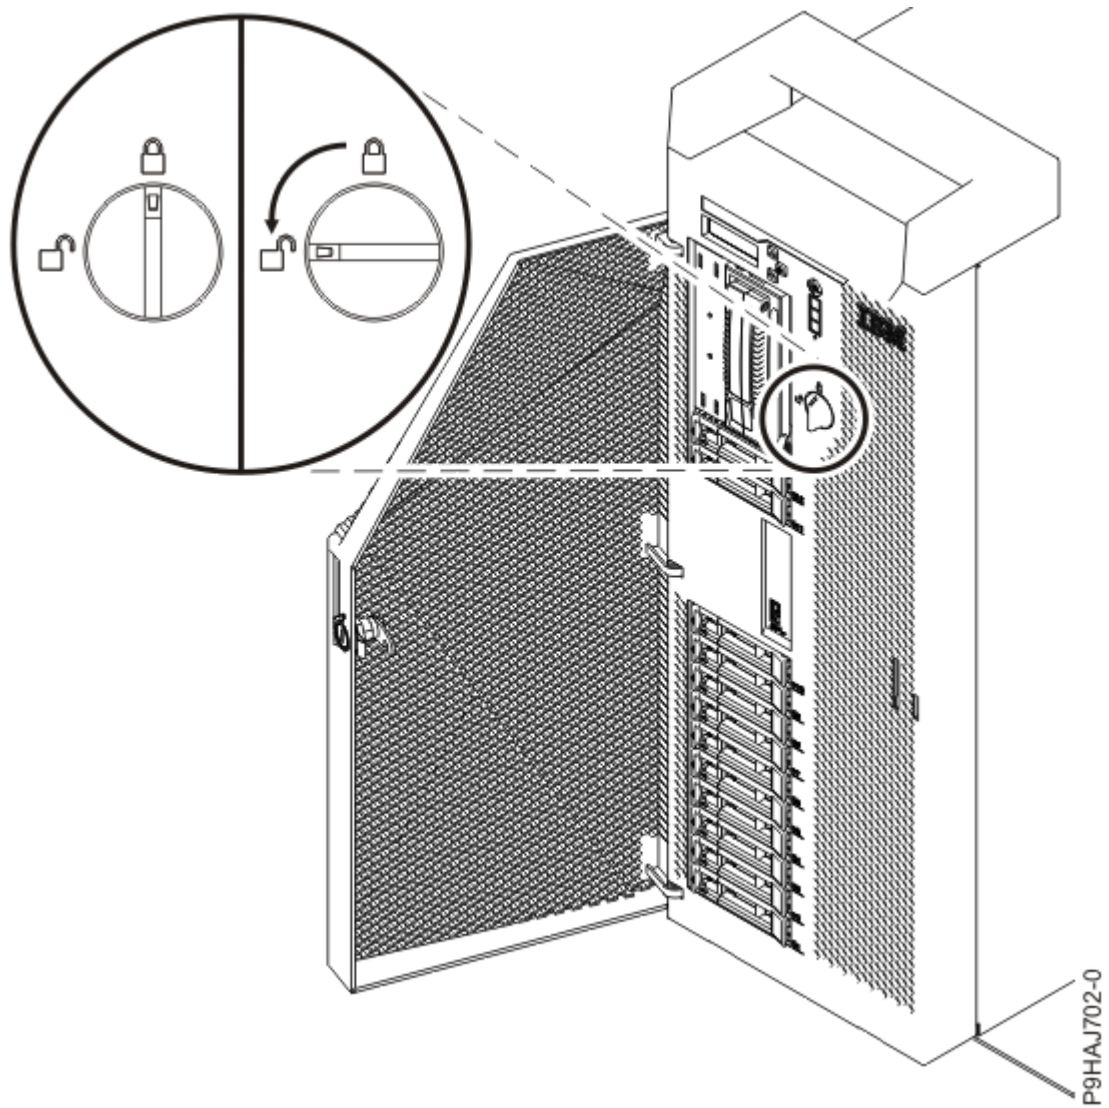

Figure 7. Opening the front cover latch
- c) Twist the cover latch to the left (counterclockwise) to unlock the cover as shown in Figure 7 on page 22.